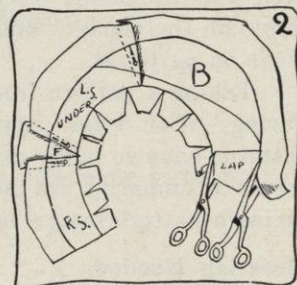

FIG. 2.
- a. Remove pins that hold the paper pattern to the brim, but do not remove the pins that hold the pieces of the pattern itself together, except at the lap (see Figure 2).
- c. Cut on penciled headsize and edge line and on the line that is allowed for the lap (see Figure 2).